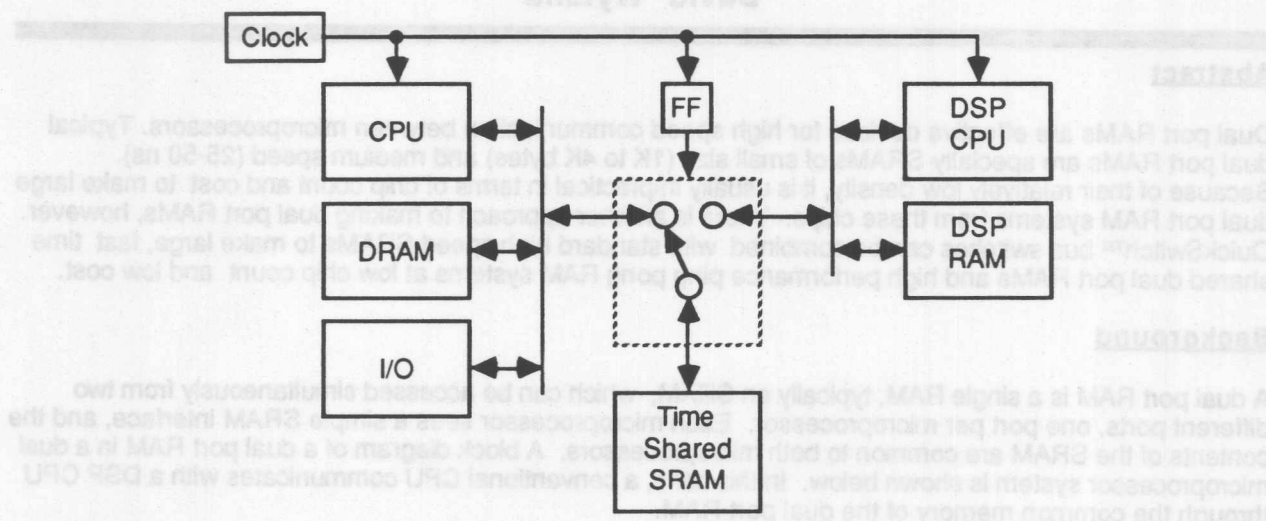

Figure 2: Time Shared Dual Port SRAM
The dual port RAM function requires that each port have a simple SRAM interface and its access be independent of activity on the other port, to a first approximation. If the system timing for both ports is related or synchronized such as by being generated from the same clock, a dual port RAM function can be created by time sharing a single SRAM. This approach uses conventional SRAMs which combine high density, high speed and low cost. A block diagram of this approach is shown in Figure 2.
In the system shown in figure 2, a single SRAM is switched between the two buses of the CPU and the DSP CPU. A flip flop (FF) driven by the clock is used to switch the SRAM between the buses. Let us assume, for the moment, that both CPUs are driven by the same clock and have the same bus transfer conditions, i.e. that an SRAM read or write transfer can be completed in one clock pulse.